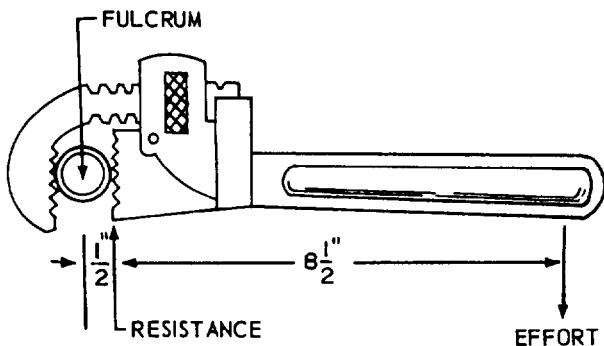

Figure 1D
- 1-16. With the aid of the pipe wrench shown in figure 1D, how many pounds of effort will you need to exert to overcome a resistance of 900 pounds?